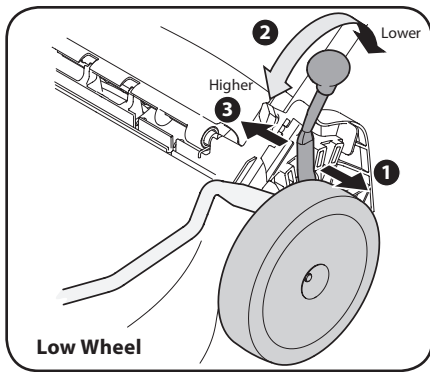
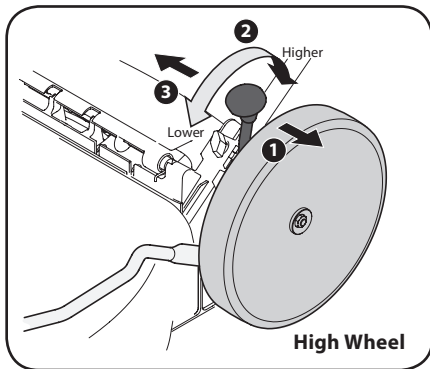

Figure 2-10
Figure 2-11
- Slide lever to desired position for a change in cutting height. Refer to Figure 2-10 for low wheel and Figure 2-11 for high wheel.